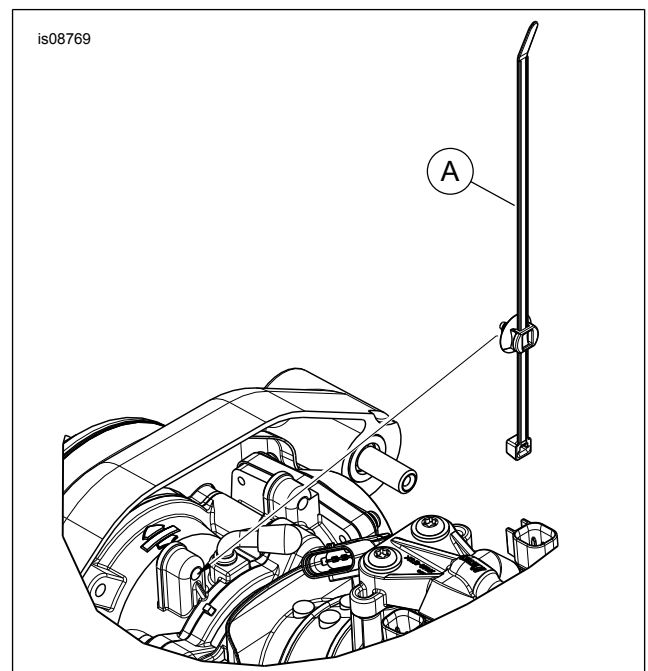

Figure 1. Cable Strap
2. See Figure 1. Remove and discard induction module support bracket. Secure throttle control wire to throttle body with supplied cable strap (A).